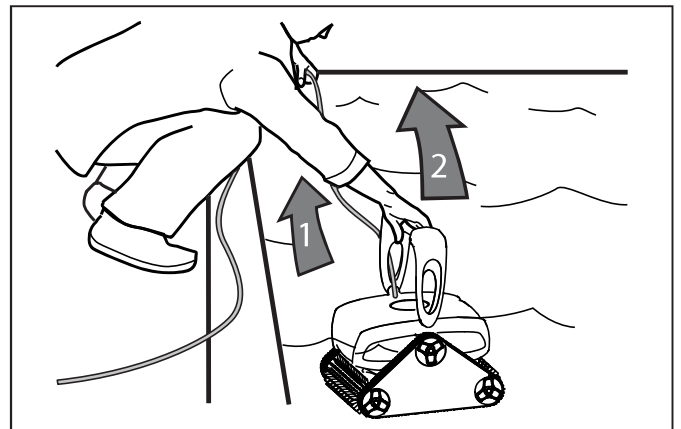

Figure 5. Lift Cleaner From Pool with Handle
- When the cleaner is within arm's reach, use the handle to lift it from the water (Figure 5). Never lift the cleaner out of the pool by the floating cable.